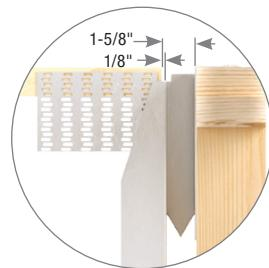

Figure 1
- The end of the truss/joist should measure 1-5/8" from the face of the supporting wall. See Figure 1.
- The truss/joist should bear fully on the FWH seat with a gap no greater than 1/8" between the end of the supported member and the hanger. See Figure 1.